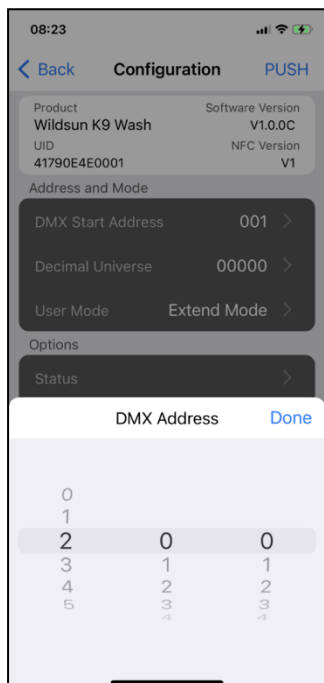

Figure 5
2) Change the device parameters such DMX address or User Mode or others (Figure 5,6):